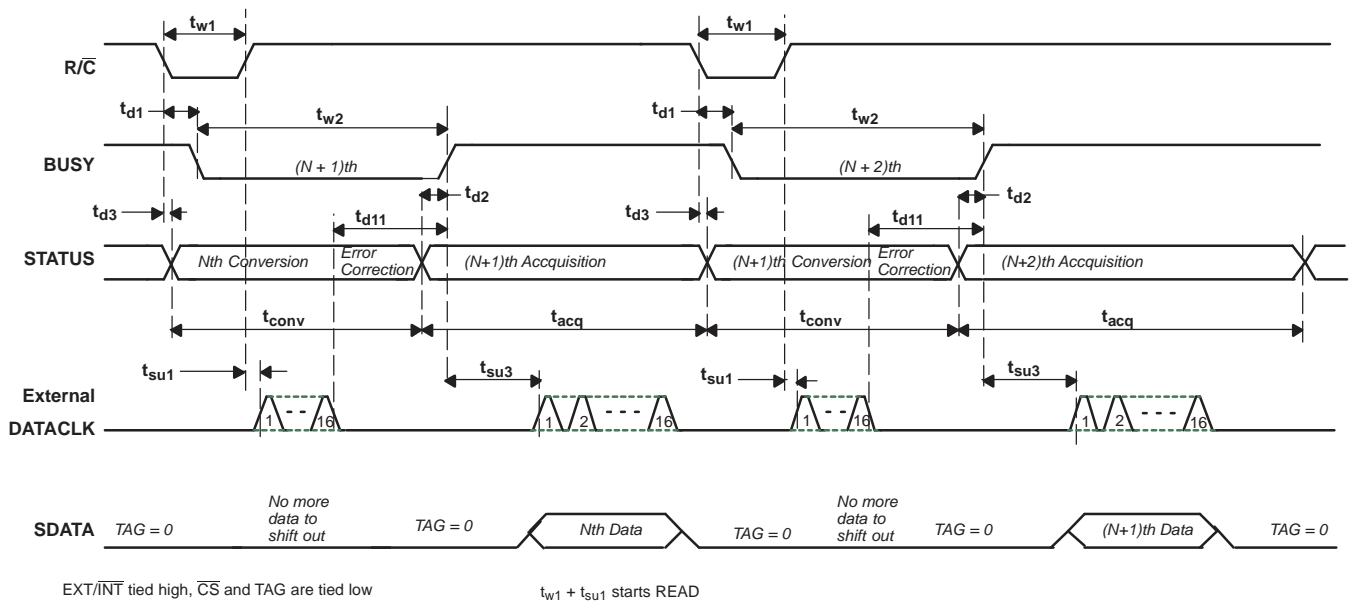
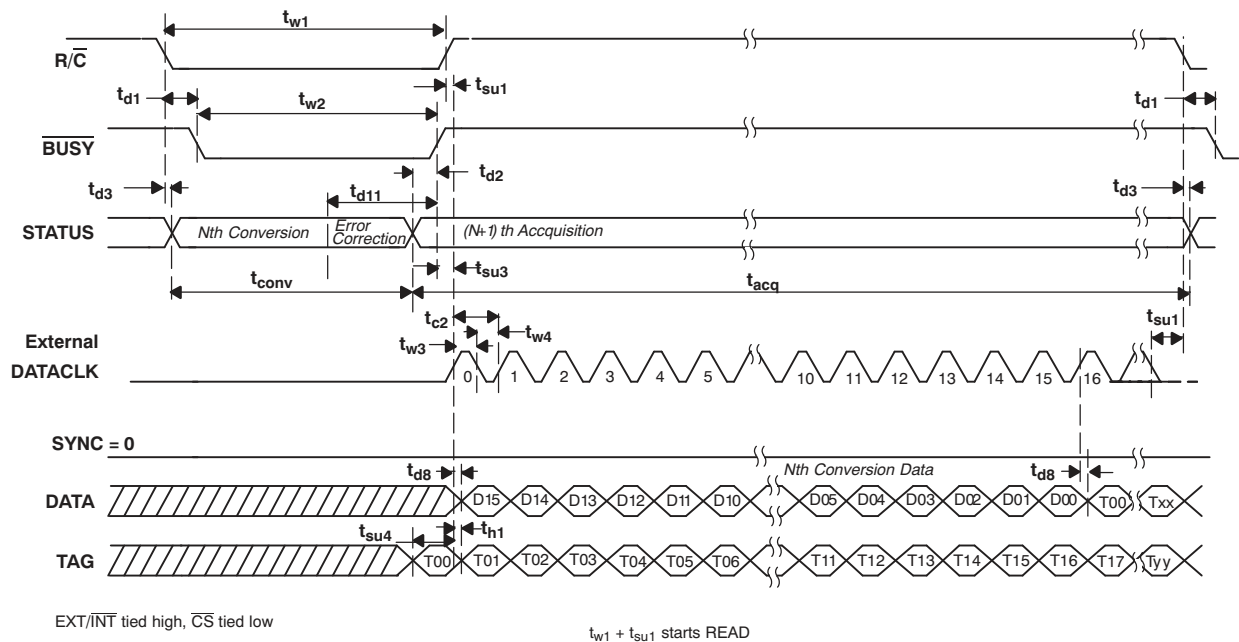
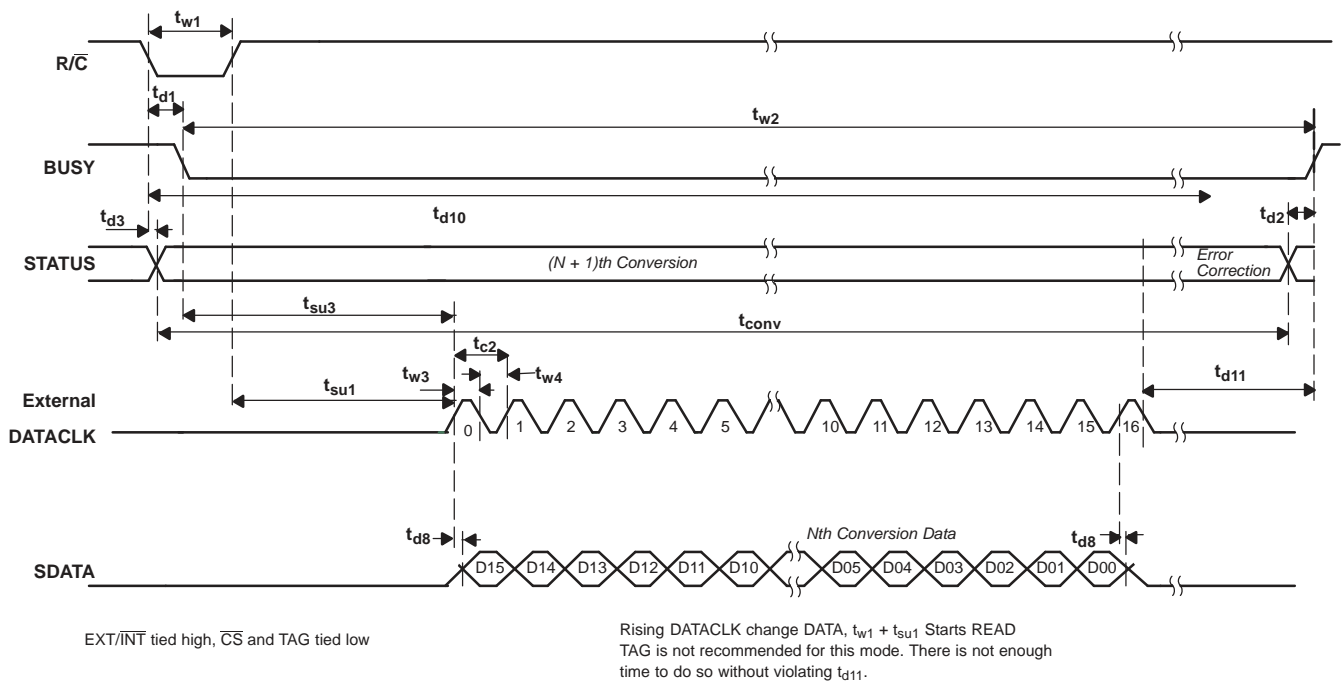

Figure 34. Basic Conversion Timing: External DATACLK
Figure 35. Read After Conversion (Discontinuous External DATACLK)
Figure 36. Read During Conversion (Discontinuous External DATACLK)
(1) See Figure 34, Figure 35, and Figure 36 for constraints on data valid from conversion *N*–1.
After conversion N is completed and the output registers have been updated, $\overline{\text{BUSY}}$ (pin 24) goes high. With $\overline{\text{CS}}$ low and R/C high, valid data from conversion N are output on SDATA (pin 19) synchronized to the external data clock input on DATACLK (pin 18). The MSB is valid on the first falling edge and the second rising edge of the external data clock. The LSB is valid on the 16th falling edge and 17th rising edge of the data clock. TAG (pin 20) inputs a bit of data for every external clock pulse. The first bit input on TAG is valid on SDATA on the 17th falling edge and the 18th rising edge of DATACLK ; the second input bit is valid on the 18th falling edge and the 19th rising edge, etc. With a continuous data clock, TAG data is output on SDATA until the internal output registers are updated with the results from the next conversion. Refer to Table 6 and Figure 35 for more information.
The switching noise of the asynchronous data clock can cause digital feedthrough, degrading converter performance. Refer to Table 6 and Figure 36 for more information.
A falling-edge-triggered transfer would initiate an SPI transfer after the falling edge of $\overline{\text{BUSY}}$, providing the host controller with the previous conversion results, while the current conversion cycle is underway. The timing for this type of interface is described in detail in Figure 36. Care must be taken to ensure the entire 16-bit conversion result is retrieved from the ADS8517 before $\overline{\text{BUSY}}$ returns high to avoid the potential corruption of the current conversion cycle.
A rising-edge-triggered transfer is the preferred method of obtaining the conversion results. This timing is depicted in Figure 35. This method of obtaining data ensures that SCLK is static during the conversion cycle and provides the host processor with current cycle conversion results.